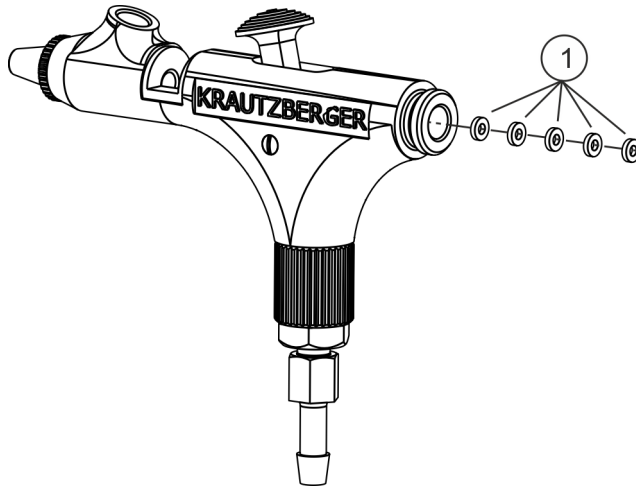

Fig. 10: Changing the seals
7. ➤ Remove seals (Fig. 10/1) from main element.